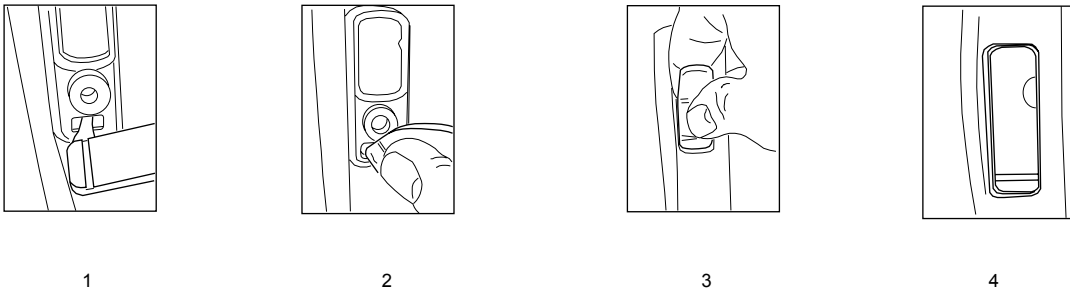

Figure 6-11. Dust Cap Re-assembly
1. Insert the tail of the dust cap into the bottom hole of the audio jacks housing opening (Figure 6-11).